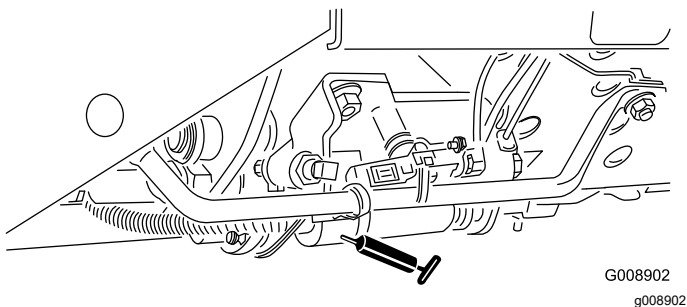

Figure 64
- Mow/transport slide (Figure 64)